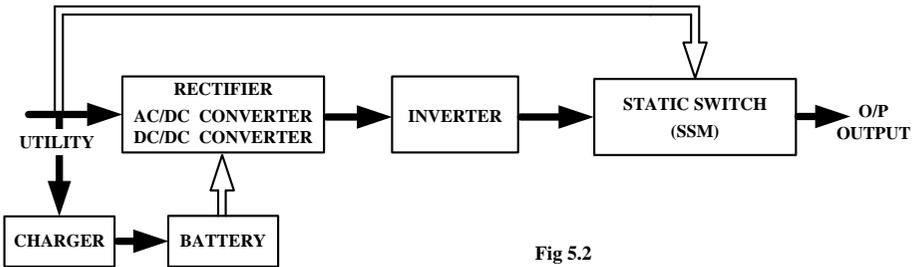

Fig 5.2
2. When the utility returns to normal the UPS will turn on the AC/DC converter, turn off the DC/DC converter, and switch the charger to charging mode. This is the same operating mode as in Figure 5.2.
4. The UPS will restart automatically when the utility is available, with the same status as in Figure 5.2.